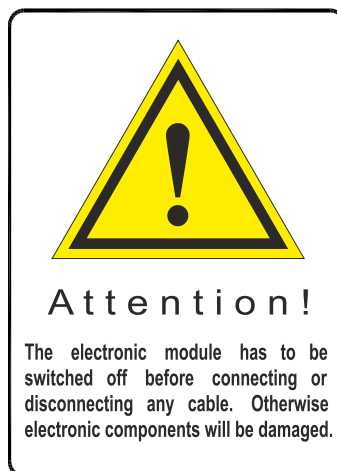

Fig. 2-1
- Switch the SPM controller off before connecting/disconnecting its cable connectors. Disconnecting or connecting the cable connectors during operations may cause damage to the electronic circuit and disable the device. A warning label is attached to the SPM controller (Fig. 2-1).